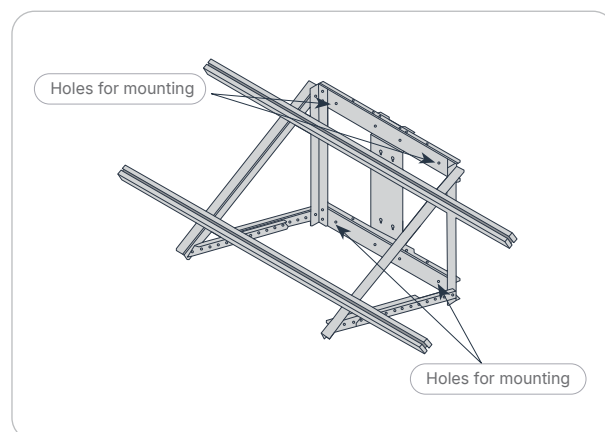

Figure 8. Installation on a wall.
b. For installation on a Wall, refer to **Figure 8**.